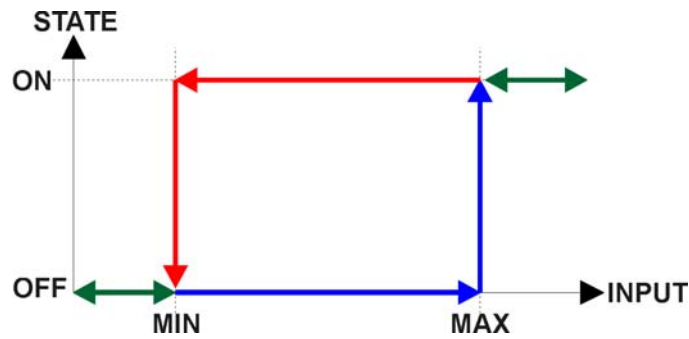

Figure 5 – Analog Input Read as Digital
There is another type of 'digital' input that can be selected when 6112h is set to 20 = Analog On/Off. However, in this case, the input is still configured as an analog input, and therefore the objects from the Analog Input (AI) block are applied instead of those discussed above. Here, objects 2020h, 2030h and 6030h are ignored, and 6000h is written as per the logic shown in Figure 5. In this case, the MIN parameter is set by object 7120h **AI Scaling 1 FV**, and the MAX is set by 7122h **AI Scaling 2 FV**.